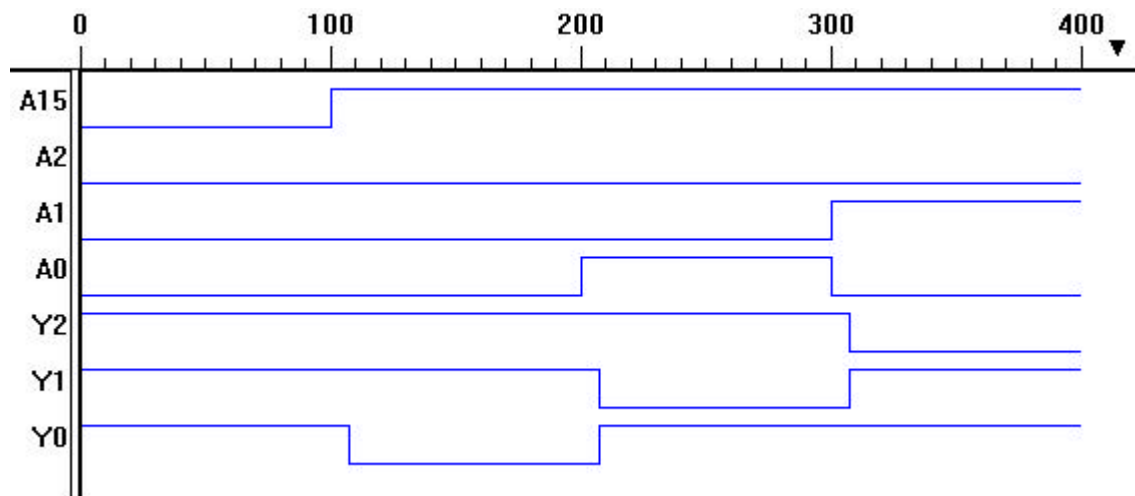

Figure 8: Simulation for combined circuit
The outputs Y0 – Y7 are used as chip enables signals for addresses 8000H – 8007H. Figure 8 shows the output enables for addresses 8000H – 8002H. *Reference “Creating waveforms and test vectors” Appendix A for waveform simulation.* In order to memory map an I/O device to these addresses, Y0 is then ANDed with the WRITE signal from the microcontroller to generate a memory WRITE cycle. Y1 can be ANDed with the READ signal from the microcontroller to generate a memory READ cycle.
10. The test vectors used that generate figure 8 are shown below.